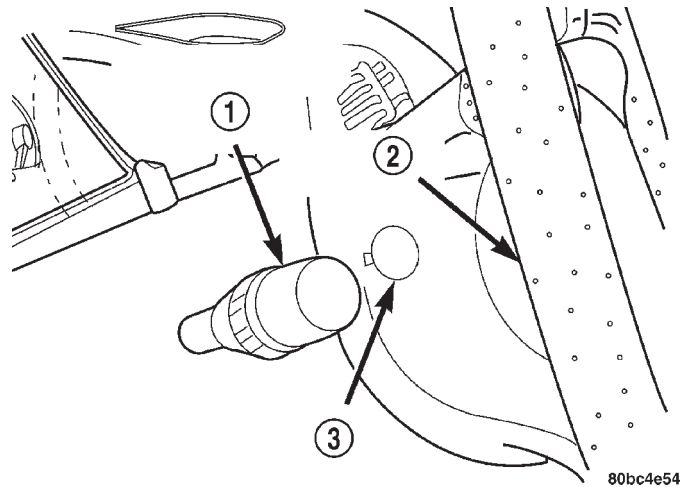

Fig. 7 Trim Caps
(8) If the vehicle is not equipped with speed control, remove the airbag mounting screw trim caps from the steering wheel rear cover (Fig. 7). There is one on each side of the steering wheel.